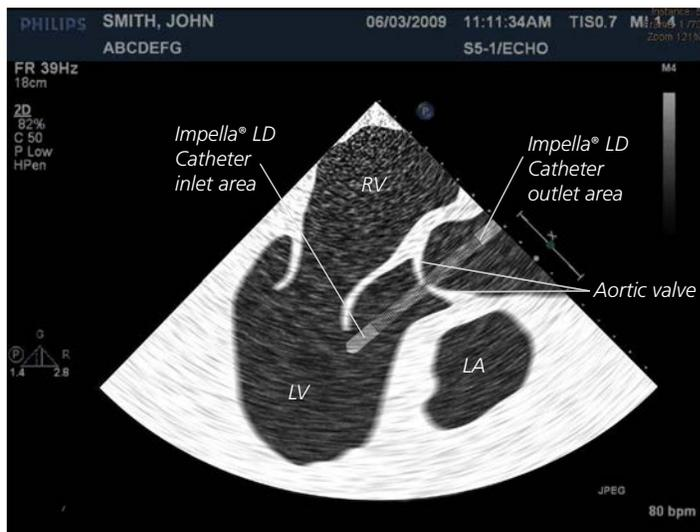

Figure 5.49 Impella® LD Catheter After Implantation
⑥ Position the front silicone plug as close as possible above the aorta. Secure the silicone plug to the graft using a penetrating suture ligature as shown in Figure 5.49.